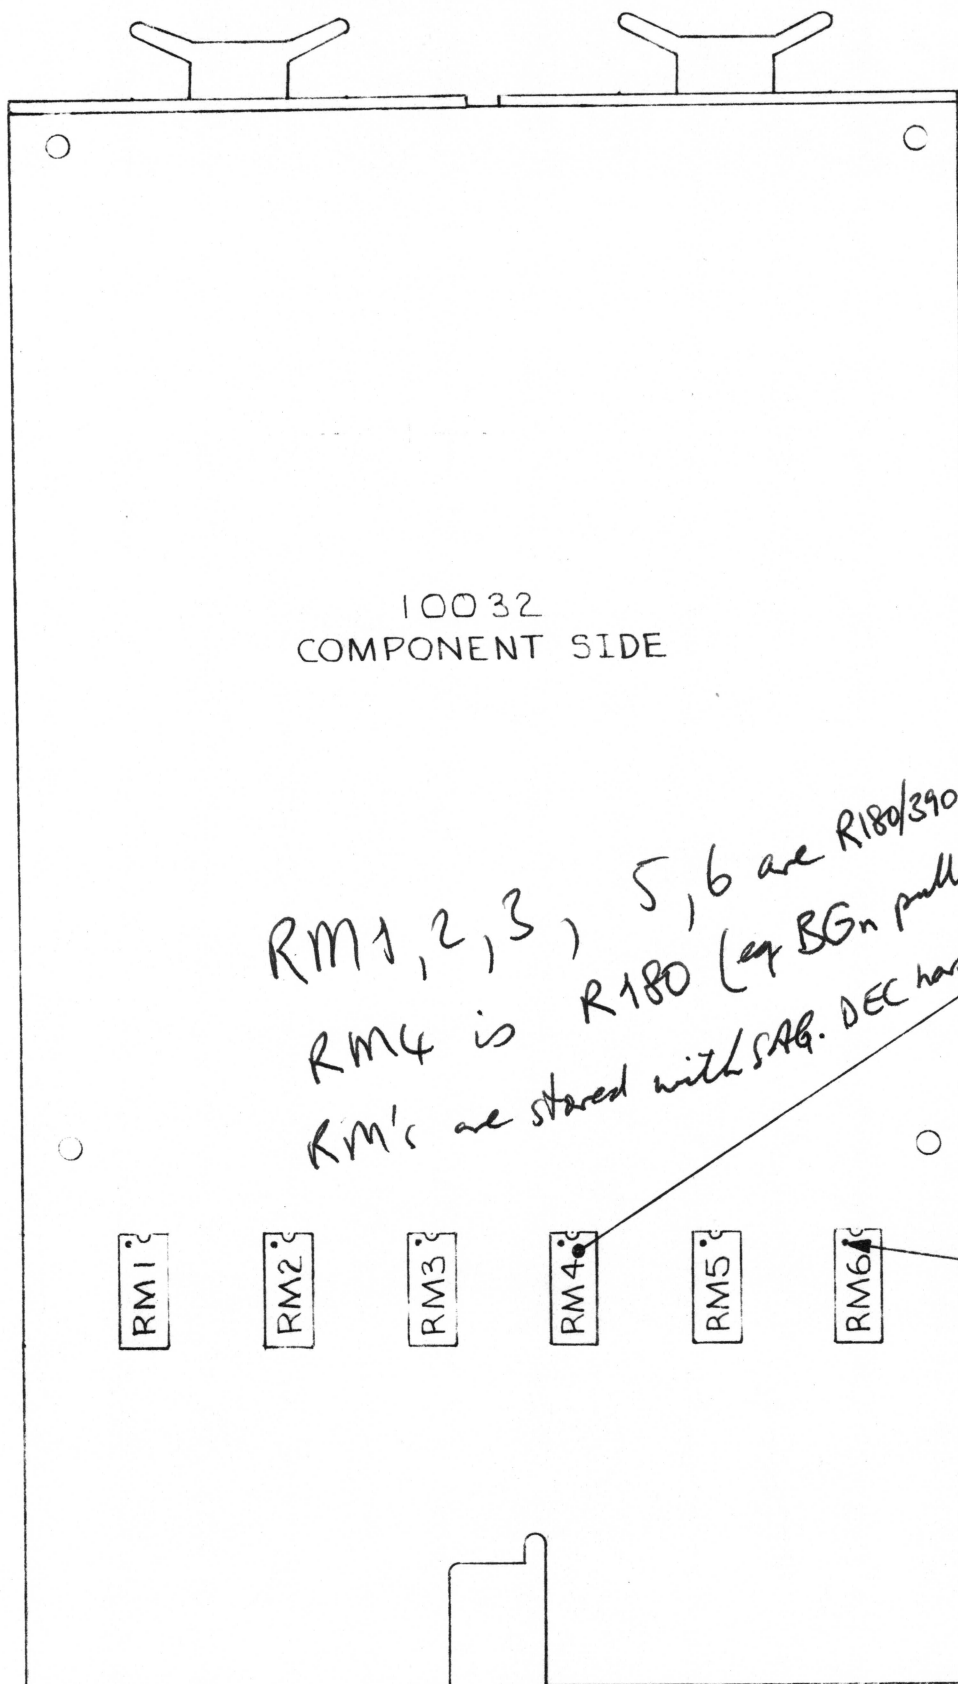

FIGURE 2
3. In the same manner as shown in figure 2, install the 6 resistor modules in the sockets.
3. Remove the 6 resistor modules shown in figure 2.